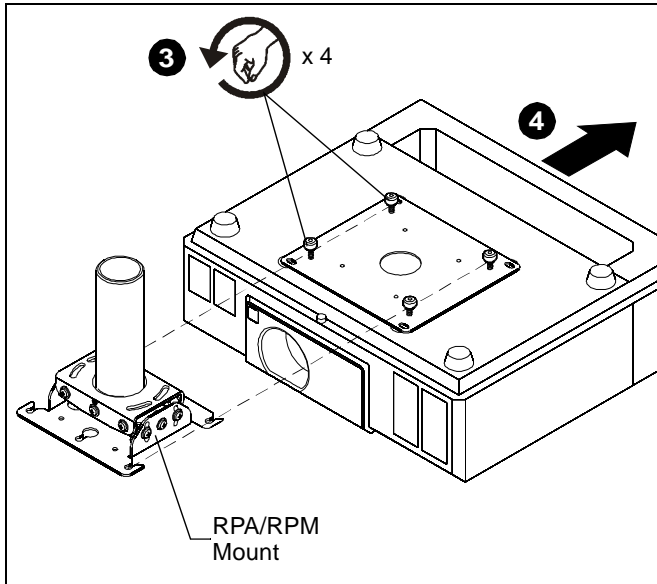

Figure 1
3. Loosen the thumb nuts securing the projector to the RPA/RPM mount. (See Figure 1)